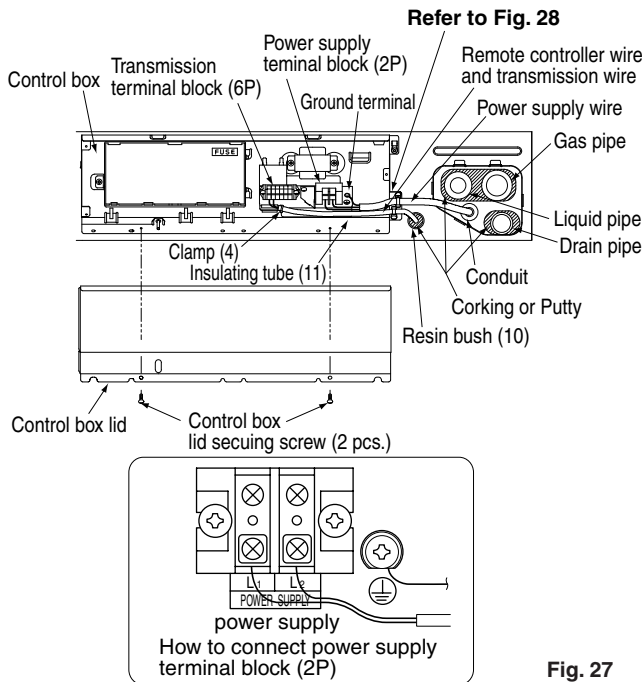

Fig. 27
<Method of wiring power supply, units and connecting remote controller wiring> (Refer to Fig. 27)
Holding the control box lid, loosen the 2 securing screws, remove the control box lid. Thread the remote controller wire and transmission wire through the insulating tube (11) and secure with the clamp (4), and cut off the insulating tube (11) to suitable length. The insulating tube (11) can let the wire pass to 2. If there are 3 or more wires, use another insulating tube (11). Pull the wires inside through resin bush and connect the wires to the transmission terminal block (6P) inside the control box. After connecting, use the clamp (4) to bind the remote controller wire together with the transmission wire to the anchor. (Refer to Fig. 27, 28, 29)